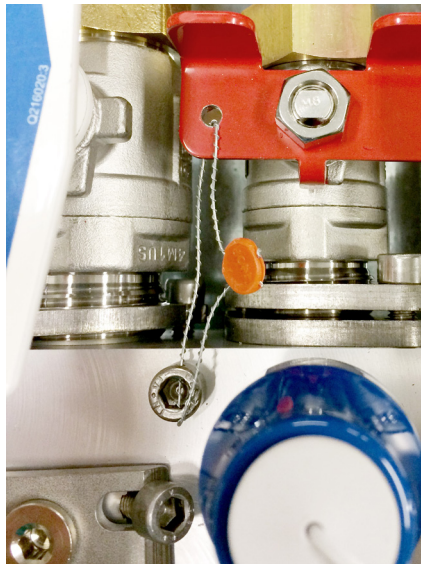

Bild 1
**NOTE!** After completion of the test and safety inspection, the "bypass valve" must be sealed with the accompanying seal and seal wire according to Figure 1.